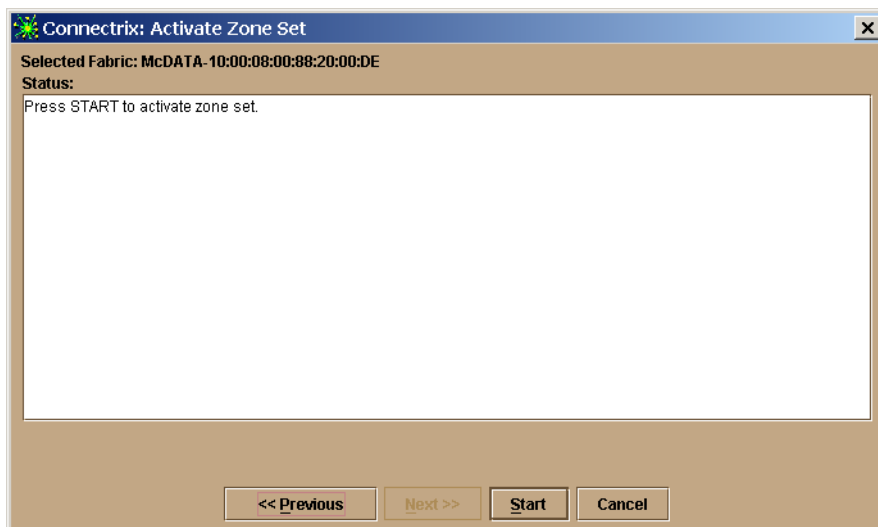

Figure 5-7 Activate Zone Set Window
5. Click **Next**. This displays the **Activate Zone Set** window (Figure 5-7).